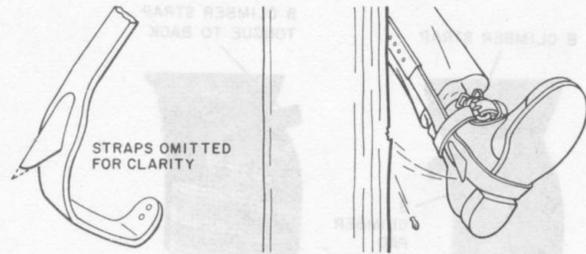
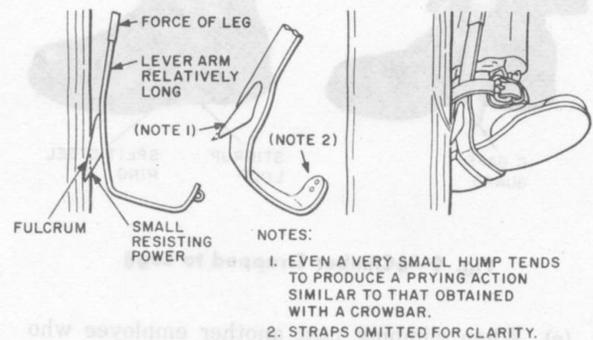

Fig. 11—Dull Gaff
Fig. 12—Gaff Ridge and Point Altered
5.06 Figures 11 and 12 show two of the principal causes of climber cutout due to unsatisfactory gaff conditions. A dull point or dull cutting edges results in insufficient gaff penetration as shown in Fig. 11 causing the resultant cutout. If the straight ridge of the gaff is altered as indicated in Fig. 12, a prying action is produced that will cause climber cutout. Under no circumstances should any part of the gaff be altered by filing. Proper field maintenance of factory shaped gaffs is described in Part 7.